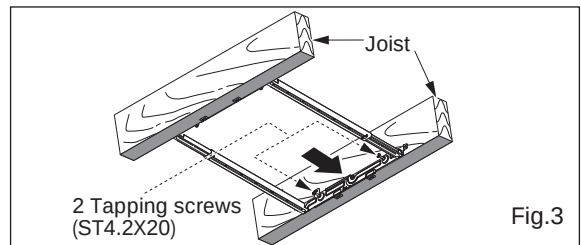

Fig.3
3. Adjust the length of Flex-Z Fast™ bracket as the spacing between joists, and install to joists by drilling the other 2 tapping screws which have been fixed on it. (Fig.3)